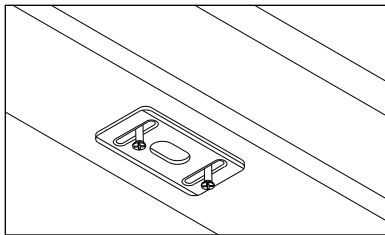

Figure 2f
After the double door is properly aligned, use the astragal bolts to mark and drill 3/8" diameter x 1 3/8" min. deep hole through the head jamb and 5/8" diameter x 1 3/8" min. deep hole through the sill, per Figures 2f, 2g, and 2h. Pre-drill (2) 1/16" pilot holes for the mounting screws for the head jamb. Install the retaining plate in the head jamb using the included hardware and insert the grommet into the 5/8" diameter hole in the sill.